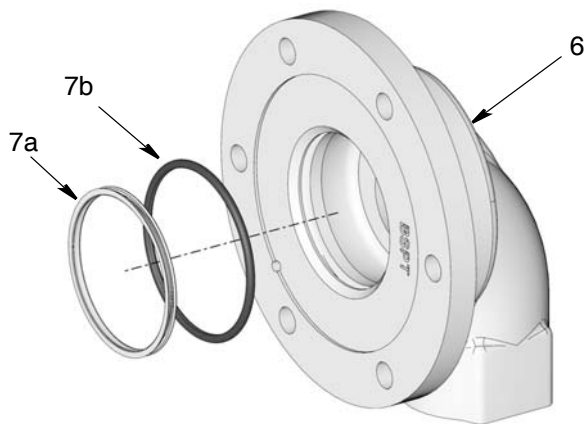

FIG. 39
- a. Use a pick to remove the white seal (7a) and black o-ring (7b) from the inlet assembly (6) (FIG. 39).